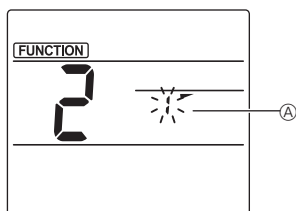

Fig. 3-2
- ② Selecting the vane number (Fig. 3-2)